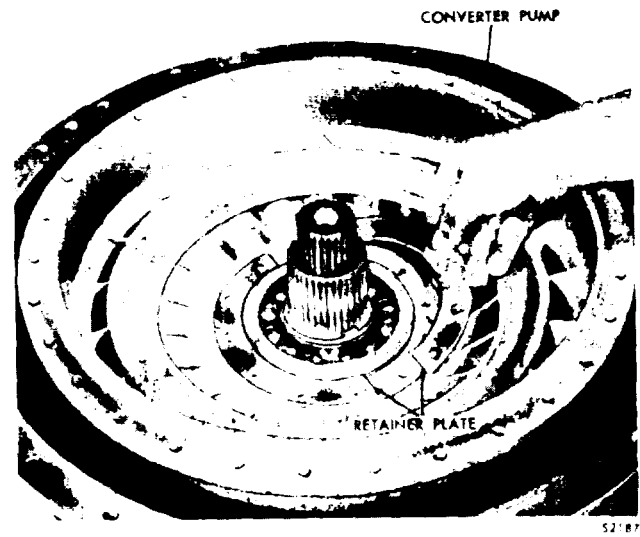

Figure 4C-14. Removing (or Installing) Split Retainer Plate
3. Remove snap ring (19) from converter output shaft (3, Figure 4C-27 on page 4C-22).